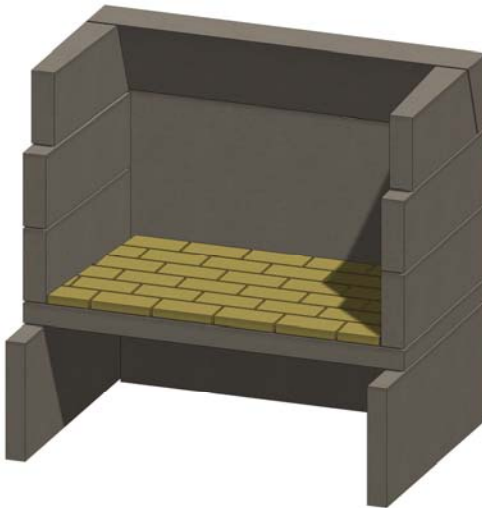

Figure 17. Floor Firebrick
J. Line the firebox, using split firebrick and 1/4-inch mortar joints. Install firebrick on the floor first, with 1/4-inch of Stone Age Multi-Purpose Ready-Mix or other high temperature mortar. See Figure 17.